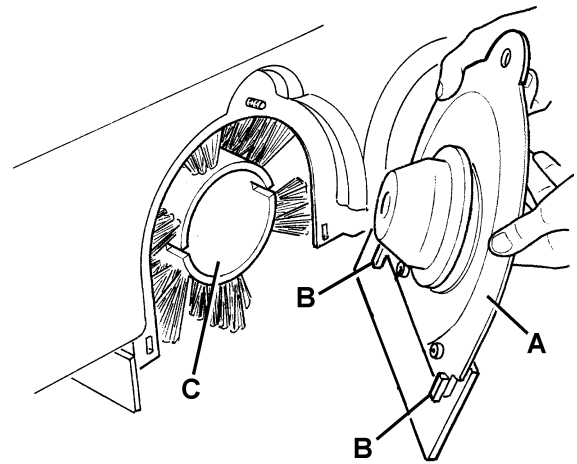

Figure 5
7. Remove the main broom cover (A, Fig. 5) by pressing it downwards to disengage the fasteners (B).
8. Remove the main broom (C, Fig. 5).
12. Install the main broom cover (A, Fig. 5) by engaging the fasteners (B).